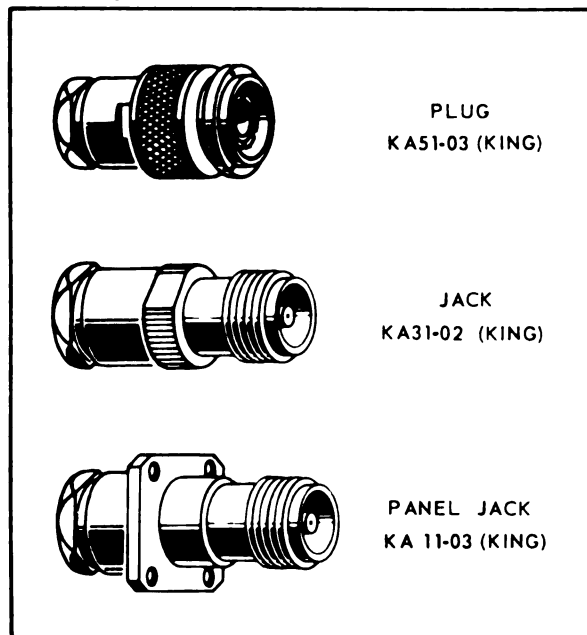

Figure 4-6. Typical TNC Connectors
f. TNC Series. See figure 4-6. A small lightweight connector similar to the BNC series, but having a threaded coupling, used where a positive coupling under vibration and a low noise level is desirable.